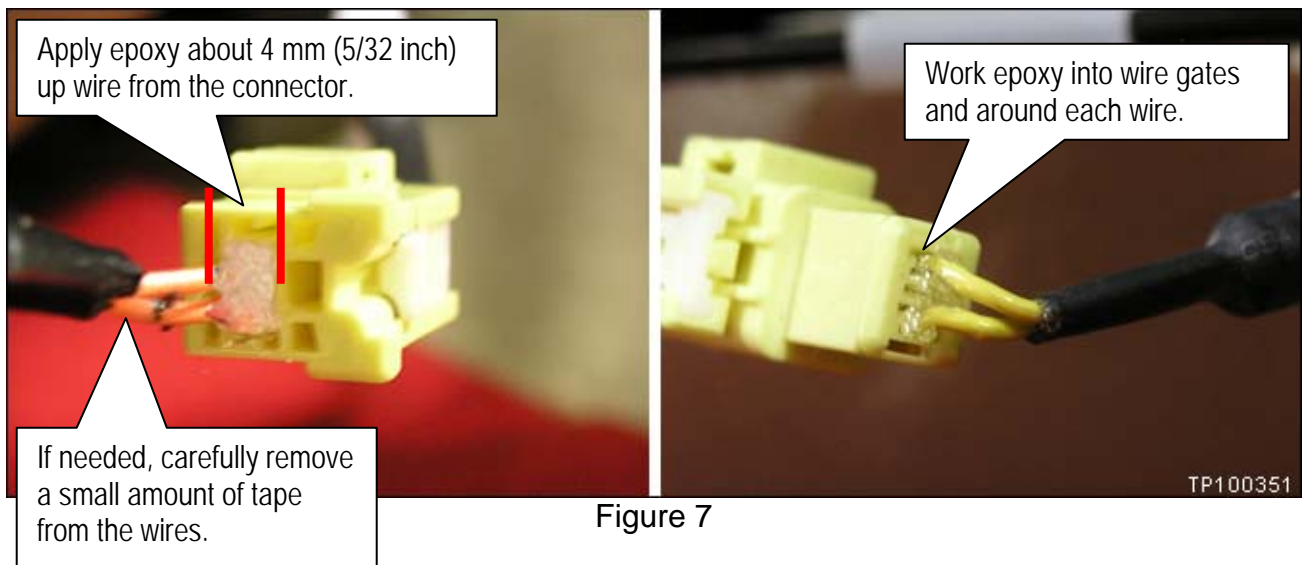

Figure 7
9. Apply the epoxy to the back side (wire gates) of the SAB connector (see Figure 7).